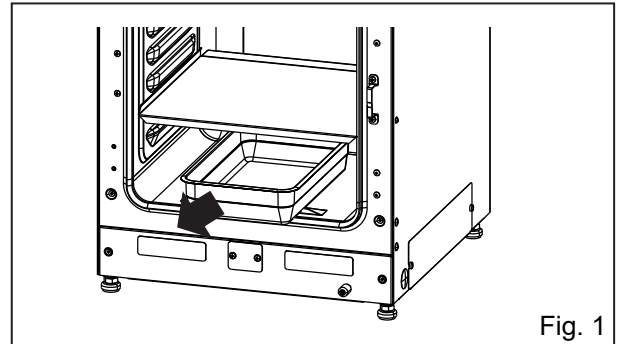

Fig. 1
1. Pull out the humidifying pan (Fig. 1).